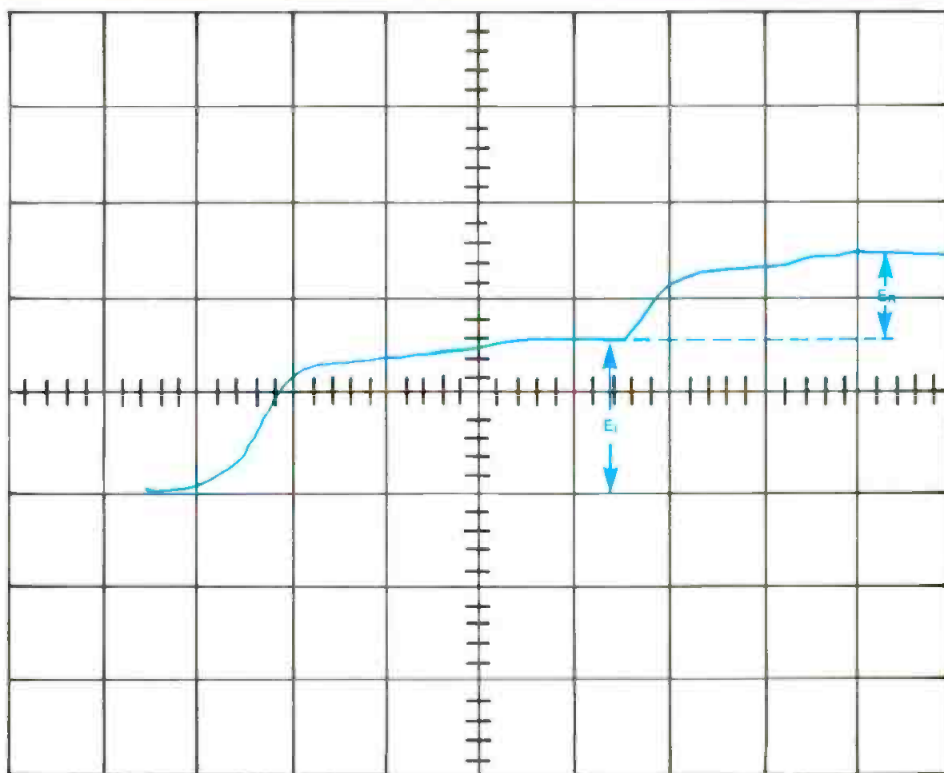

Figure 4. Simulated display illustrating the phenomena of "dribble up" caused by high-frequency losses in a transmission line.
they have reached full charge, as shown in Figure 4.
different cable designs. In the first design, the inner diameter of the plastic (the buffer tube) is the same size as the outer diameter of the fiber, and is in contact with the fiber around its entire circumference. This is called the *tight tube* design. [See Figure 4(A).]
In the second design, the layer of plastic is significantly larger than the fiber, so that the plastic is not in contact with the fiber around the entire circumference of the fiber. This technique is called a *loose tube* design. It is illustrated in Figures 4(B) and 4(C).